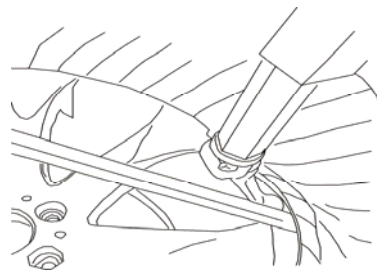

Fig 16
**Caution: The roller support can't be used for all tires, some tires need following operation: Move the mounting head above the rim; Insert the lifting lever in the clearance between the bottom tire bead and the rim, have the tire hung on the mounting head(Fig 16); Tread the power supply pedal to rotate the turntable. With the help of the mounting head, the tire is detached completely.**